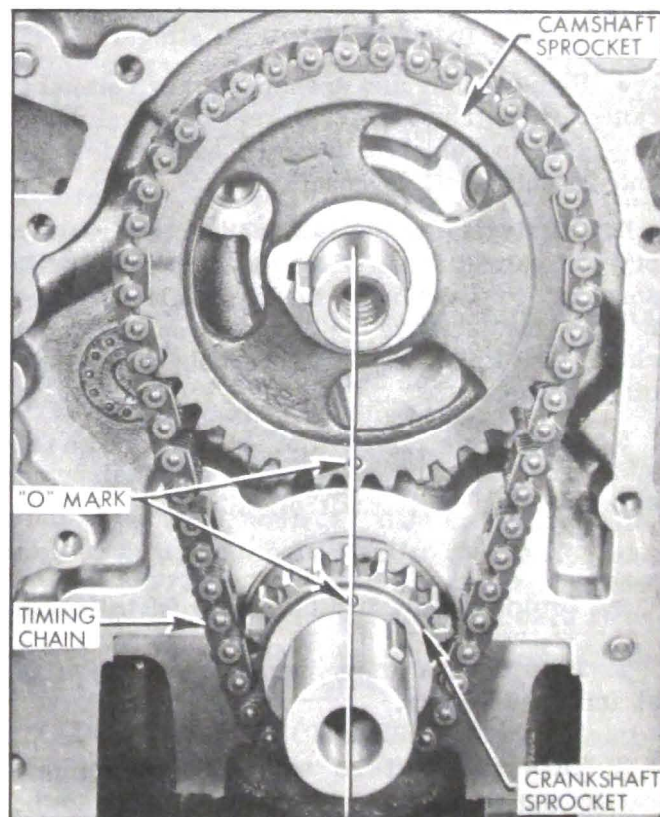

Figure 2-38—Timing Chain and Sprockets Properly Installed
1. With timing chain cover removed (sub-par. a above) temporarily install harmonic balancer bolt and washer in end of crankshaft. Turn crankshaft so sprockets are positioned as shown in Figure 2-38. Doing so will make
2. Turn camshaft so with sprocket temporarily installed, "O" mark is straight down. See Figure 2-38. Remove sprocket.
3. Assemble timing chain on sprockets and slide the sprocket and chain assembly on the shafts with the "O" marks in their closest together position and in line with the sprocket hubs. See Figure 2-38.